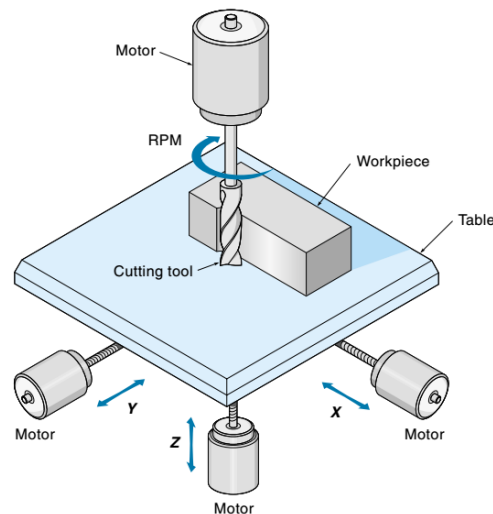

Figure 1-11 Basics of a numerical control milling machine
Numerical control (NC) is the type of digital control used on machine tools such as lathes and milling machines. These machines can automatically cut and shape the workpiece without a human operator. Each machine has its own set of axes or parameters that must be controlled; as an example, consider the milling machine shown in Figure 1-11. The workpiece that is being formed is fastened to a movable table. The table can be moved (with electric motors) in three directions: X, Y, and Z. The cutting-tool speed is automatically controlled as well. To make a part, the table moves the workpiece past the cutting tool at a specified velocity and cutting depth. In this example, four parameters (X, Y, Z, and rpm) are continuously and independently controlled by the controller.